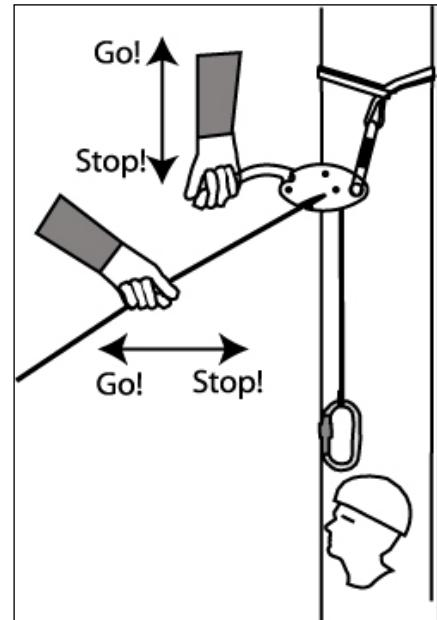

Figure 6 Operating the Smartline descender from the top when evacuating another person.
- 8) The speed of the descent is regulated with one hand on the handle and the other hand holding the line below the device. Start with the line at an angle out of the slot. With the descender upside down, the descent starts by pulling the handle upwards (figure 6), and stops when moving the handle downwards or by releasing it. Additional friction is given by moving the line into the slot. It is important to always keep one hand on the line below the device to be able to control the descent.